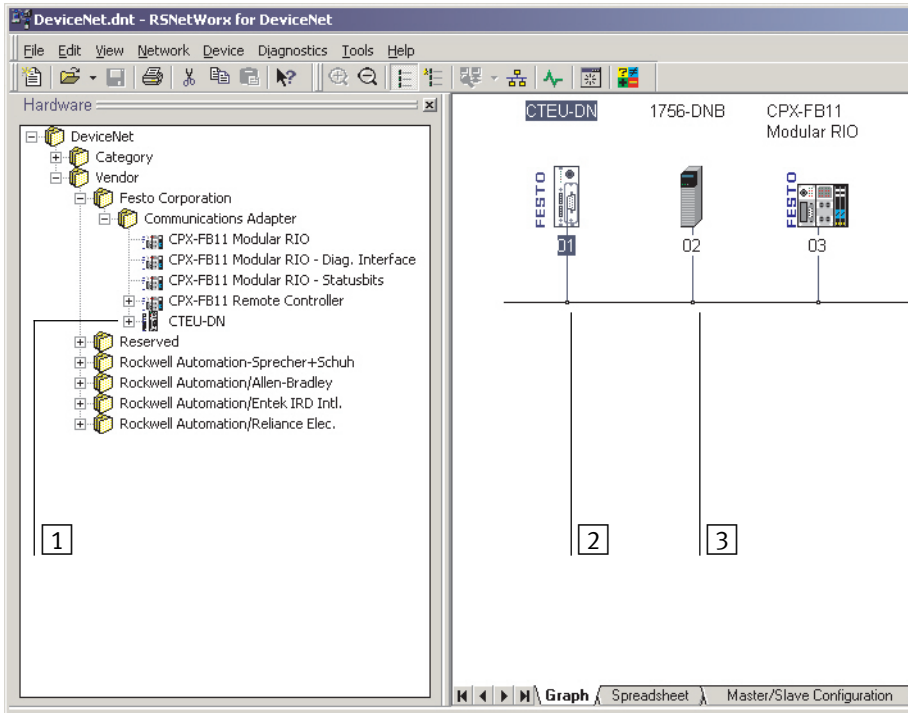

Fig. 4/1: Hardware list and network display in RSNetWorx for DeviceNet
Once the EDS file has been installed, the CTEU-DN participant will appear in the hardware directory of the user interface (“hardware” list) → 1 in Fig. 4/1.
2. Drag the CTEU-DN participant with the mouse into the network display on the right-hand side of the user interface → 2 in Fig. 4/1.